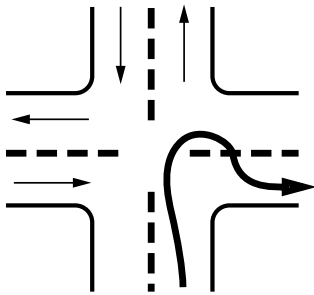

Figure 2-11
- ✓ If you are driving a truck or bus that cannot make the right turn without swinging into another lane, turn wide as you **complete** the turn, as shown in Figure 2-11. Keep the rear of your vehicle close to the curb. This will stop other drivers from passing you on the right.